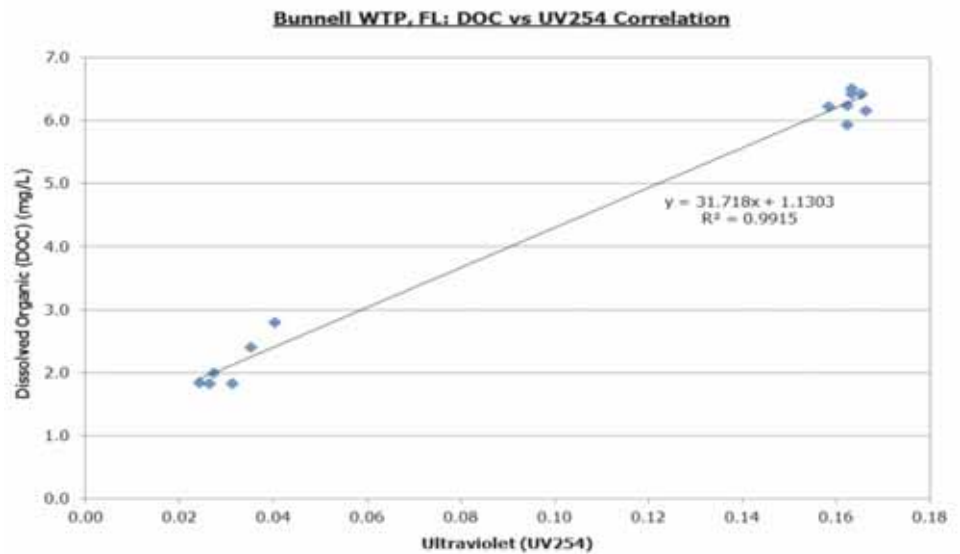
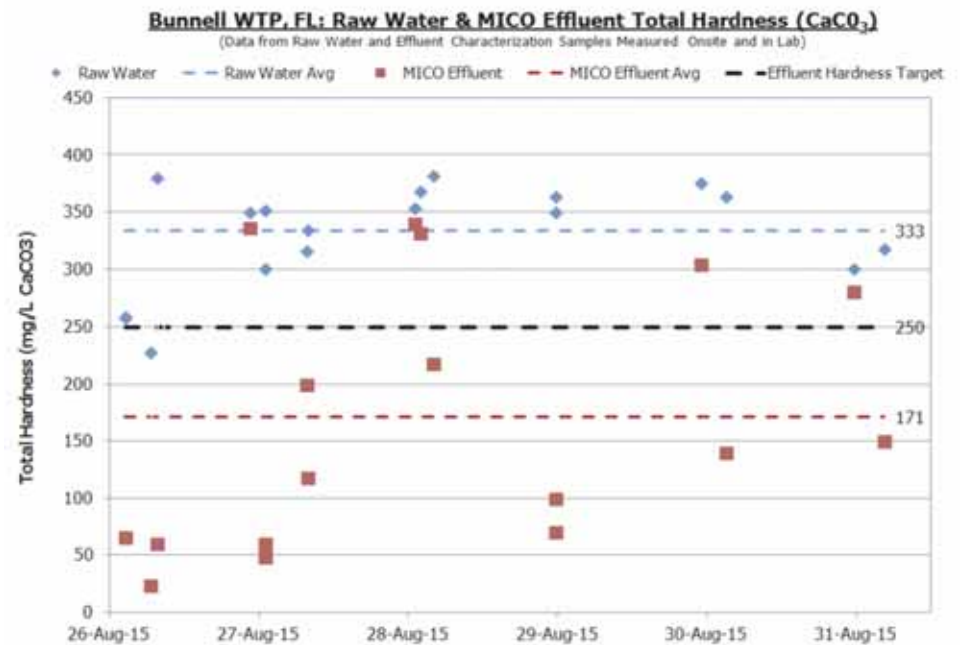

Figure 2. Ultraviolet 254 Removal
Figure 3: Dissolved Organic Carbon Versus Ultraviolet 254
Another indicator for DOC removal is ultraviolet (UV) light removal. The UV₂₅₄ (ultraviolet light absorption at a wavelength of 254 nm) is a surrogate means of measuring DOC, as they have a direct correlation. The UV₂₅₄ removal during the performance test is shown in Figure 2. The DOC and UV₂₅₄ levels are plotted together, as shown in Figure 3, to